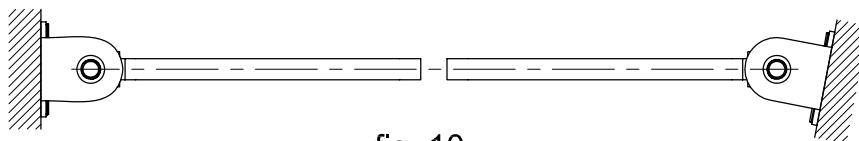

fig. 10
- b. Make sure that door panel(s) are properly aligned and mounted (fig. 10).